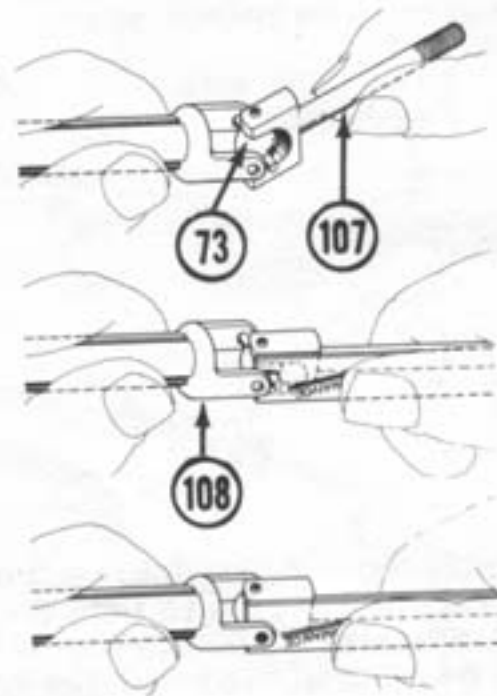

Figure 40
24. Pry universal pivot (73) in rear axle (107) into female drive shaft (108) using Team Losi wrench. Fig. 40